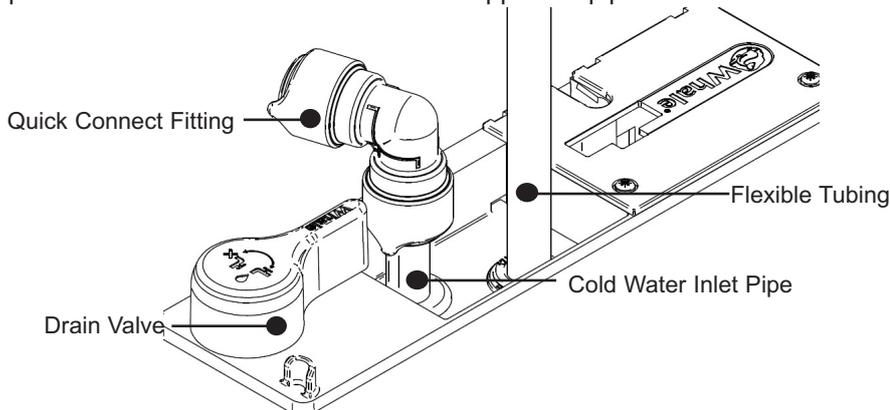

Fig. 31 Connect Hot Water Supply
Step 9 Connect Hot Water Supply (see Fig. 31).